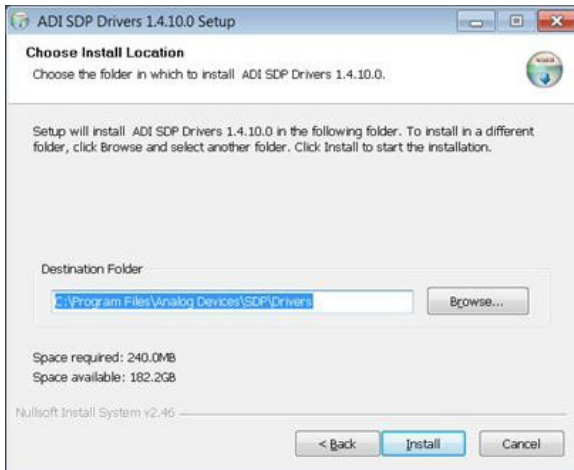

Figure 8. Verify the Destination Folder
3. Click **Install** after verifying the destination folder. Ensure that the system environment has enough space (see Figure 8).